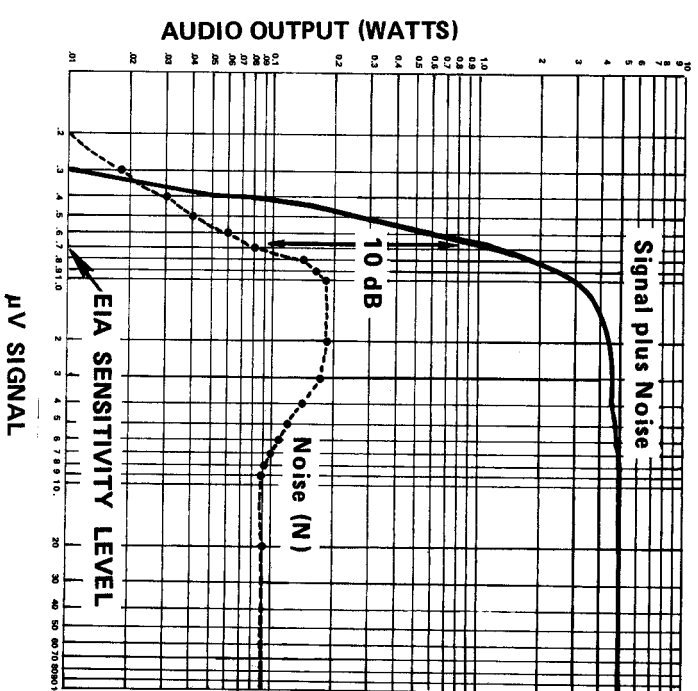
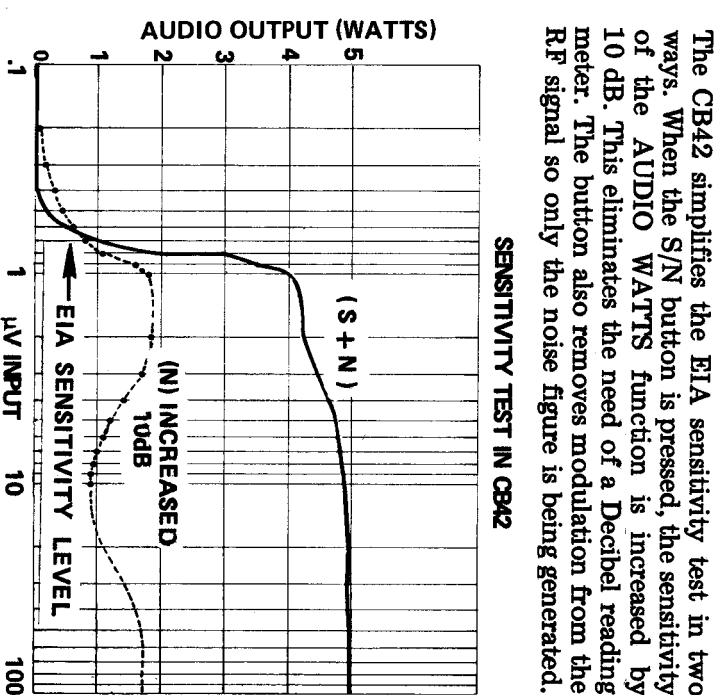

Fig. 28—Typical receiver sensitivity curves showing EIA definition of sensitivity.
Fig. 29—Receiver sensitivity curves with “noise” curve increased by 10 dB.
A typical sensitivity curve is shown in Fig. 28. As the graph shows, the noise figure (dashed line) increases with the input signal until the AGC circuit begins to reduce the receiver’s gain, at which point it begins to level off. The Signal Plus Noise (S+N) curve builds more quickly with an increasing input signal, and also levels off due to the limits of the receiver’s audio detector circuit. The EIA Sensitivity is the point where these two lines are 10 dB apart, or the (S+N) figure is 10 times the (N) figure.
The graph in Fig. 29 shows what happens if the noise curve shown in Fig. 28 is increased by 10 dB. The graph shows that the point where the two lines cross is the same point that gave the sensitivity figure in the preceding graph. This is exactly what the CB42 does. The noise output is increased by 10 dB, so all that is necessary is to find the point where the S+N and N figure read the same on the DIGITAL READOUT.